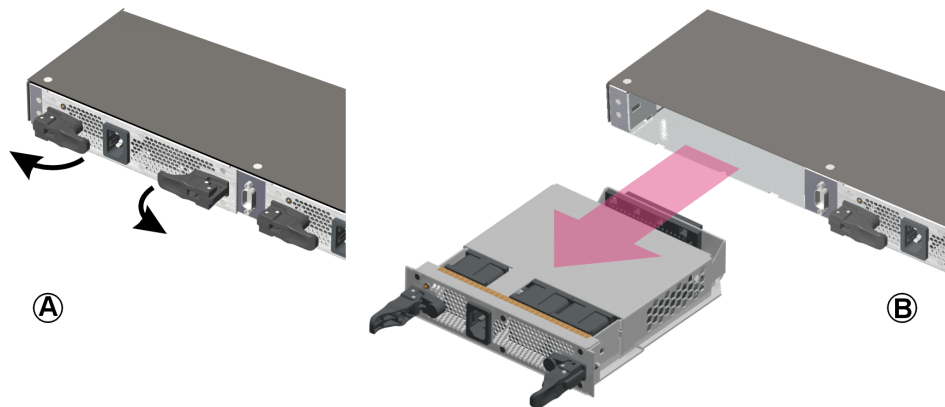

Figure 5-2 Redundant Power Supply Removal and Replacement
- a. Disengage the locking mechanism by rotating both finger handles outward by 90 degrees as shown in part (A) of Figure 5-2.
- b. Use the finger handles to pull the power supply out of the switch chassis as shown in part (B) of Figure 5-2 on page 5-7. Support the power supply as it is pulled from the chassis.
3. Position the power supply in the rear of the switch chassis as shown in part (B) of Figure 5-2 on page 5-7. Ensure the finger handles are disengaged and rotated 90 degrees outward.